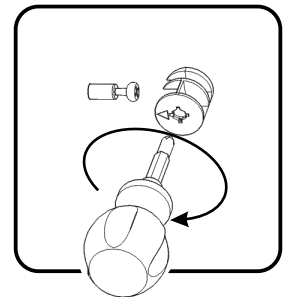

Figure 2
Attach Back Stretcher (F) to Side Panel (A) with Cam Lock. (See Figure 2)